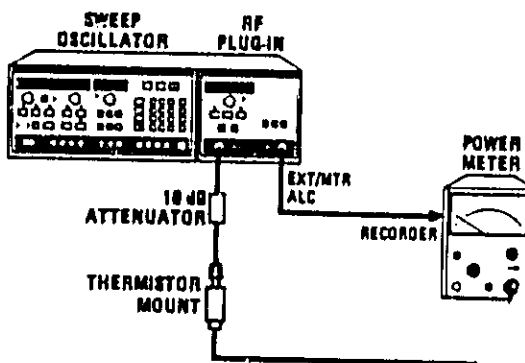

Figure 8-26. Power Meter Leveling Setup
- Attempt to level the power externally using the HP 432A/B/C, 436A, or 438A Power Meter as shown in Figure 8-26. Select MTR leveling, and enter a 100 second sweep time. If the RF power is now leveled, the failure is most likely in the detectors or the Detector Selection Switch, A4U6. Refer to the following paragraph. If this does not prove to be the case, the problem may be in the two analog switches U33 and U6A. It may be necessary to perform the ALC adjustments in Section V of this manual.